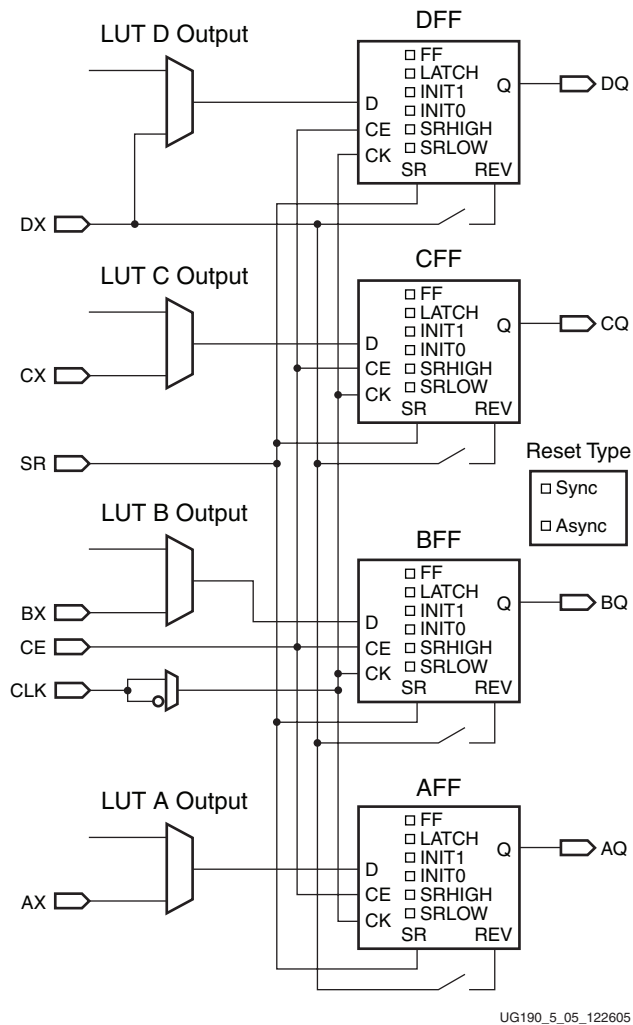

Figure 5-5: Register/Latch Configuration in a Slice
The SR signal forces the storage element into the state specified by the attribute SRHIGH or SRLLOW. SRHIGH forces a logic High at the storage element output when SR is asserted, while SRLLOW forces a logic Low at the storage element output. When SR is used, an optional second input (DX) forces the storage element output into the opposite state via the REV pin. The reset condition is predominant over the set condition (see Figure 5-5). Table 5-3 and Table 5-4 provide truth tables for SR and REV depending on whether SRLLOW or SRHIGH is used.